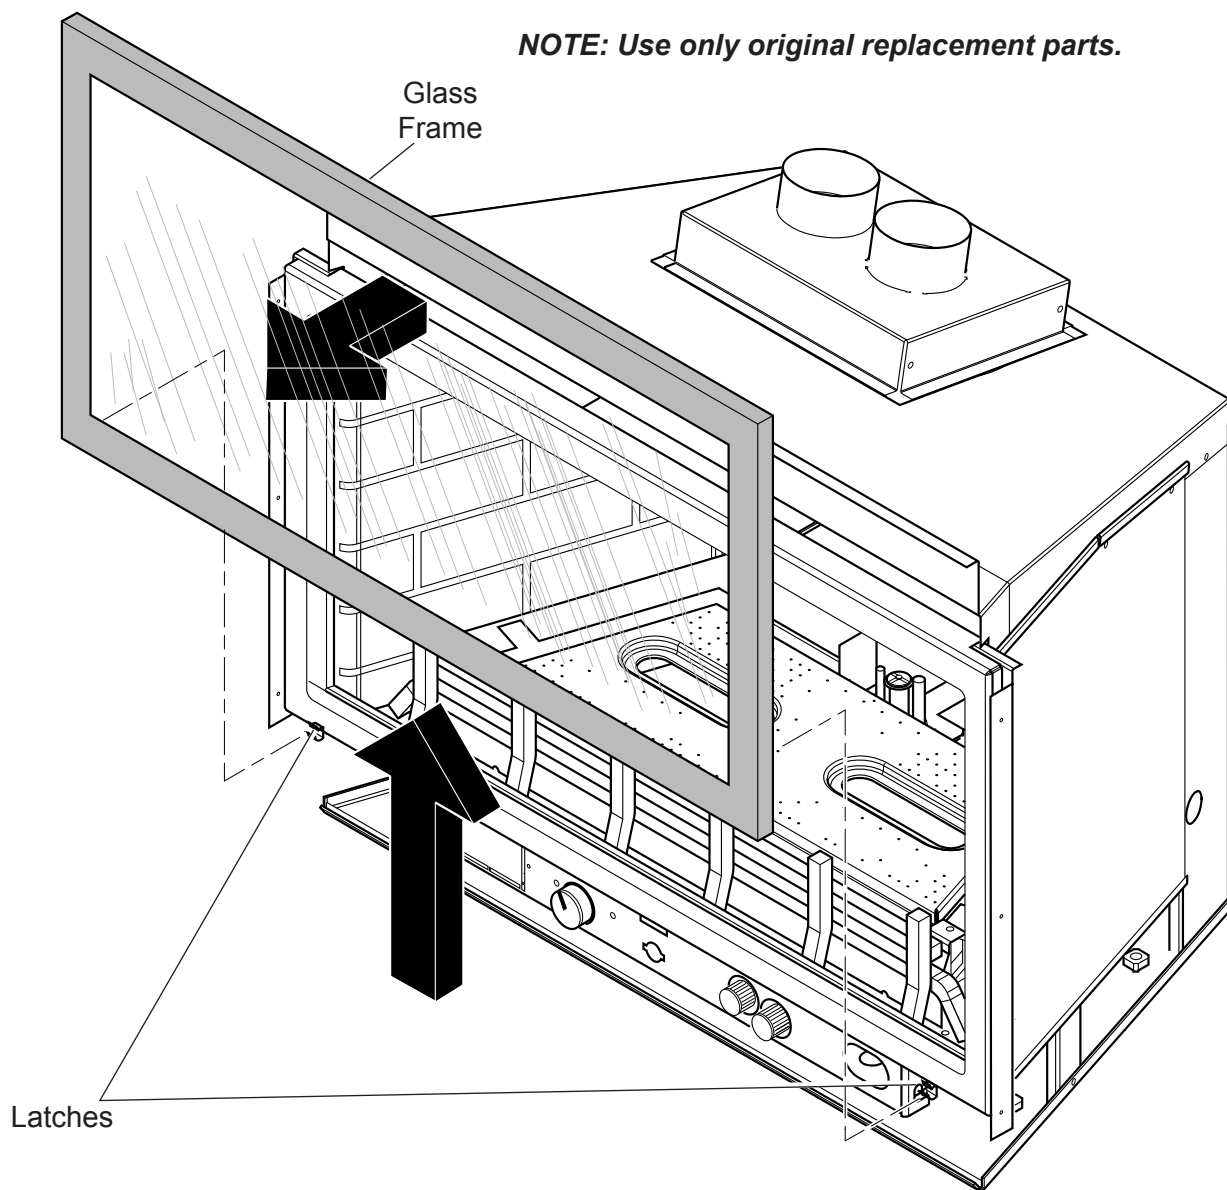

Figure 40 - Removing Door
1. Put on gloves. Remove glass frame from insert by releasing two latches on bottom of insert and lifting the door up and off the unit. *See Figure 40.*
3. Slide new glass frame back down onto insert and fasten two latches. *See Figure 40.*